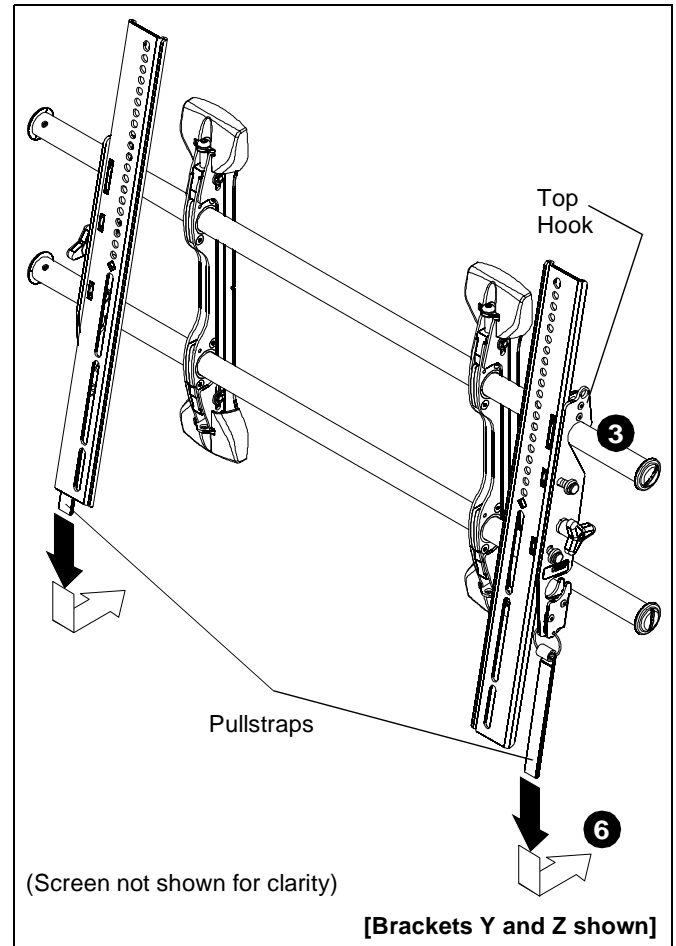

Figure 9
3. Hang top hook of interface brackets (W and X or Y and Z) onto the top bar of the mount (R). (See Figure 9)
6. Pull downward on the pullstraps and swing inward toward wall, latching interface brackets to lower bar and locking bottom of screen to the mount. (See Figure 9)